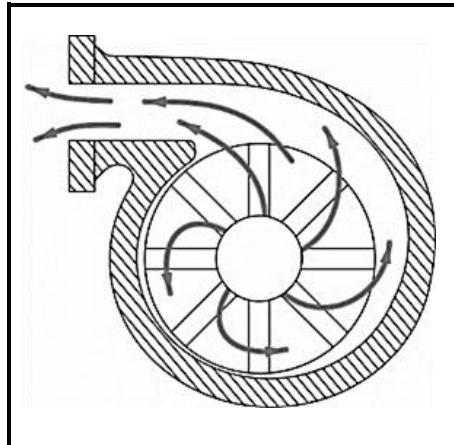

FIGURE 6.8.1
6.8 Identify the superchargers shown in FIGURES 6.8.1 to 6.8.3 below.